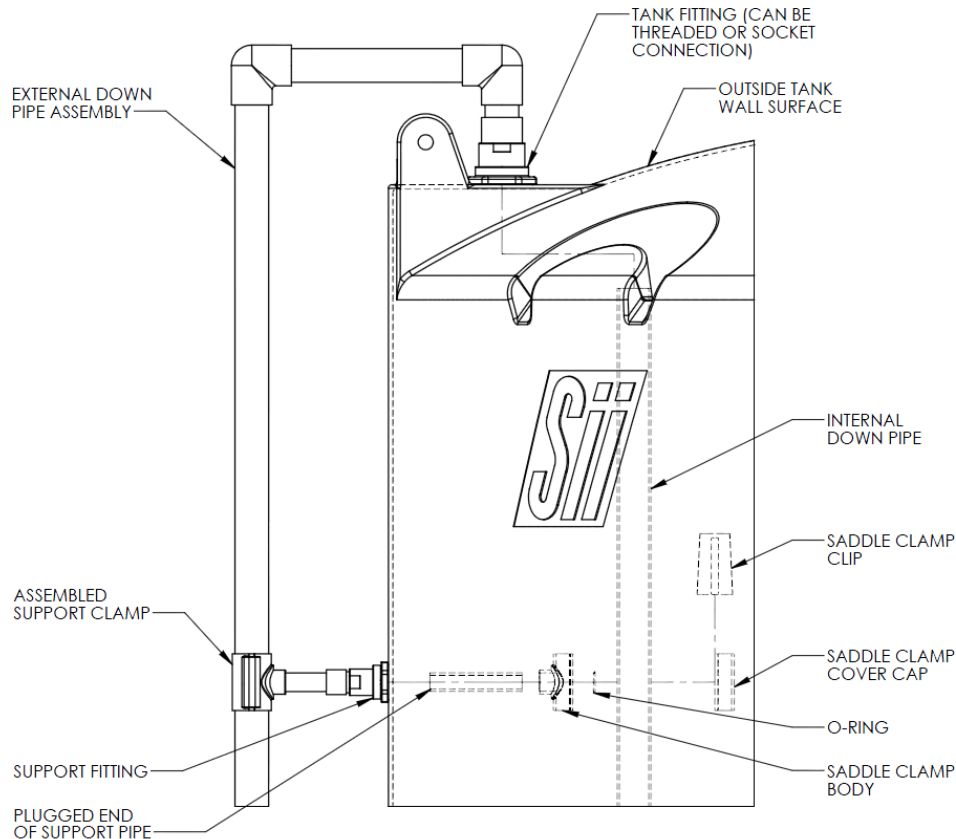

Figure 7.3
7.3.2 Assemble the piping loosely using Figure 7.3, the guidelines detailed below, and the customer approved tank drawing to ensure all parts are present and cut to meet the customer's requirements. As soon as all parts have been checked, assemble the parts with solvent weld cement and/or threaded connections as shown in Figure 7.3.
7.3.3 Assemble and install support structures as shown in Figure 7.3 (without the saddle clamp covercaps and clips). Make sure the support clamp orientation is correct (with the small width of the wedge toward the